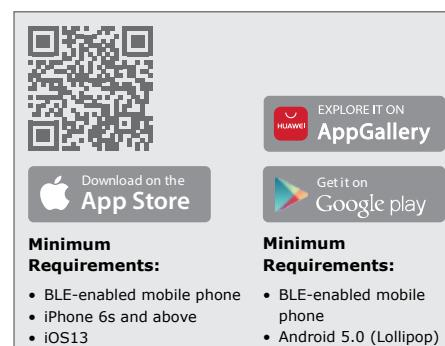

FIGURE 8
- Scan the QR Code in Figure 8.